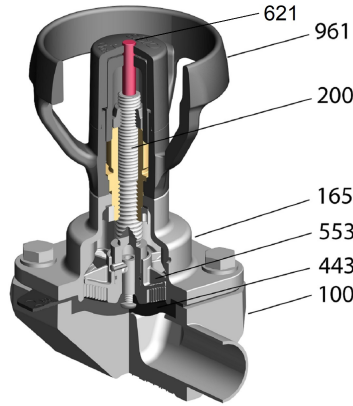

Fig. 5: SISTO-C HV.510
The diaphragm valve comprises the body 100, the functional unit (bonnet 165, stem 200, compressor 553 and diaphragm 443) as well as the actuating element (handwheel 961). The diaphragm valve is closed by turning the handwheel (961) clockwise. The diaphragm valve is opened by turning the handwheel (961) counter-clockwise. (⇒ Fig. 5) shows a closed valve. The position indicator 621 is retracted. When the valve is open, it protrudes from the upper valve section.